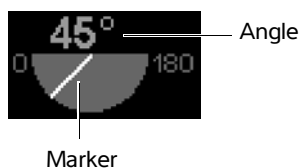

Figure 2-8 Scan plane indicator
A scan plane indicator on the system screen shows the orientation. The scan plane angle is indicated by a marker and a value (see Figure 2-8). The screen shows the angle relative to the standard monoplane, displayed as 0°. The scan plane angle ranges from 0° to 180°.
- 4 Confirm that the image on-screen changes in relation to the numbers on the scan plane indicator. See Figure 2-8 on page 2-10.